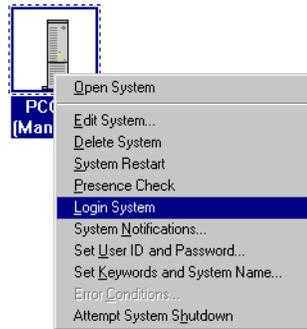

Figure 124. Logging On to a Remote System
2. For each of the systems in the group, right-click the icon. Figure 124 appears: